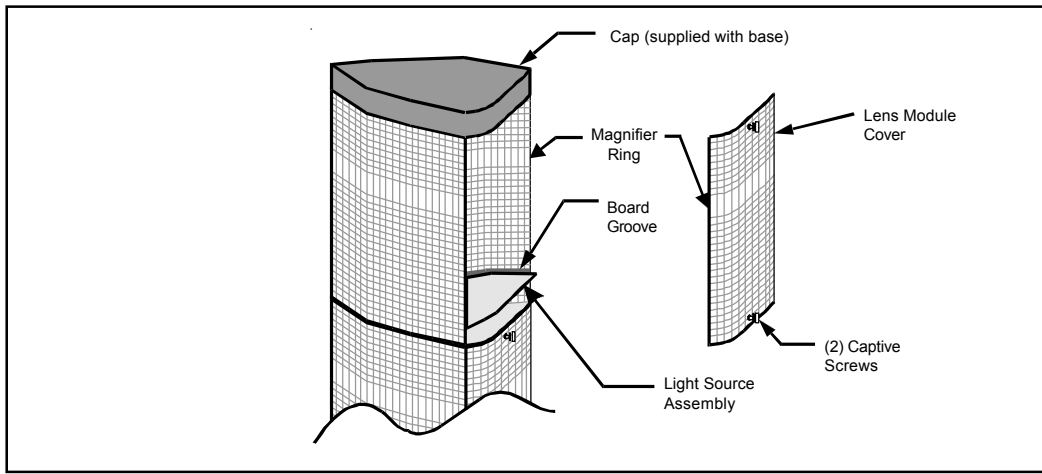

Figure 1. Assembling the Stackable Beacon Lighting System
1. Assemble the stackable beacon lighting system (Figure 1).
To prevent leakage, ensure the magnifier ring on the lens cover and the magnifier ring on the lens module are aligned (Figure 1).